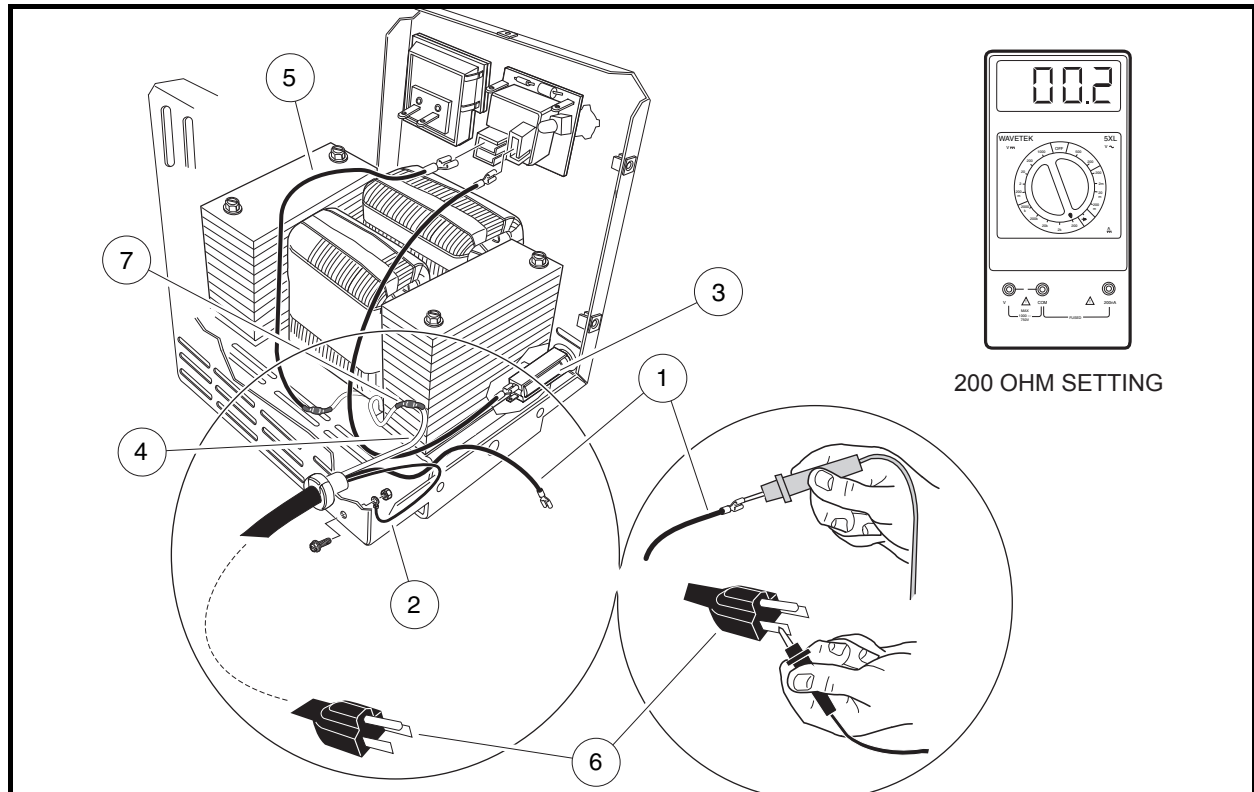

Figure 7-22 AC Cord and Plug Continuity Test
6. If the circuit is not complete, check the wiring of the AC cord, transformer primary coil wires, and internal AC circuit breaker (**Figure 7-22, Page 7-25**).
3. Disconnect the green wire (2) from charger case and position it so it does not touch any metal part of the charger (**Figure 7-22, Page 7-25**).
4. Disconnect the black wire (1) of AC cord from charger AC circuit breaker (3).
5. Carefully cut the heatshrink (7) that insulates the AC cord white wire (4) where it connects to the tan primary coil wire.
6. Disconnect the AC cord white wire (4) from the primary coil tan wire.
7. Using a multimeter set for 200 ohms, place the red (+) probe on the terminal at the end of the black wire (1). Test for continuity on each of the flat blades and then on the round pin of the AC plug (6). The tester should indicate continuity on one flat blade only. If any other reading is obtained, the AC cord and plug must be replaced.
8. Place the red (+) probe on the end of the green wire (2) and with the black probe check for continuity on both flat blades and on the round pin of the AC plug (6) (**Figure 7-22, Page 7-25**). The tester should indicate continuity on only the round pin. If any other reading is obtained, the AC cord and plug must be replaced.
9. Place the red (+) probe on the white wire (4) and check for continuity on both flat blades and on the ground pin of the AC plug (6). The tester should indicate continuity on only one flat blade. If any other reading is obtained, the AC cord and plug must be replaced.
1. Disconnect AC cord (6) from the wall outlet and DC plug from the vehicle receptacle.
3. Carefully cut the heatshrink (7) that insulates the AC cord white wire (4) where it connects to the tan primary coil wire and disconnect the white wire (4) (**Figure 7-22, Page 7-25**).
4. Disconnect the black primary coil wire (5) from the relay (**Figure 7-22, Page 7-25**).
3. Disconnect the black primary coil wire (5) from the charger relay (**Figure 7-22, Page 7-25**).
4. Carefully cut the heatshrink (7) that insulates the AC cord white wire (4) where it connects to the tan primary coil wire.
5. Disconnect the AC cord white wire (4) from the primary coil tan wire.